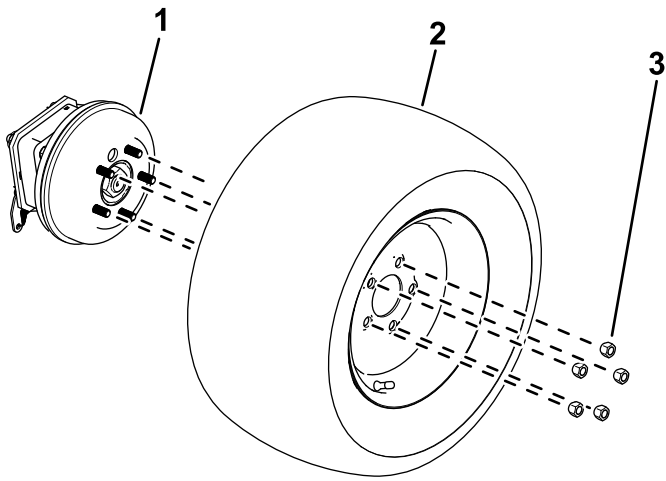

Figure 12
1. Loosen and remove the wheel lug nuts (Figure 12).
2. Removed the wheels from the wheel hubs (Figure 12).
1. Use the previously-removed lug nuts to secure the tires to the wheel hubs (Figure 12).